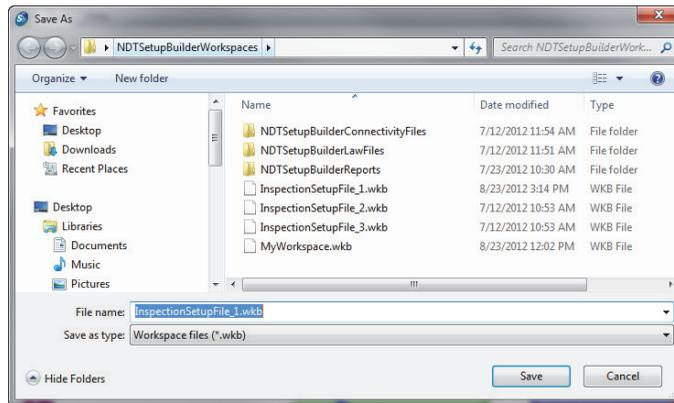

Figure 6-4 The Save As dialog box used to save a workspace as a new file
2. In the **Save As** dialog box, select the folder where you want to save the workspace file (see Figure 6-4 on page 63).